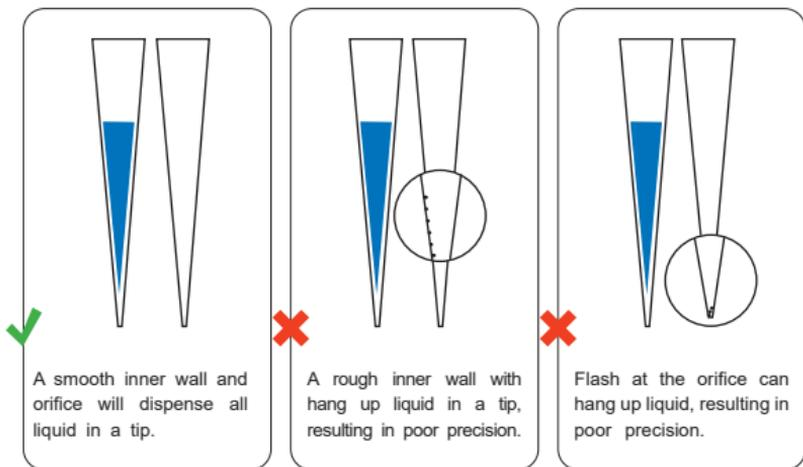

Figure 12. Evaluating tip quality
- Use the appropriate pipette tip size from a high-quality manufacturer. (figure 12)